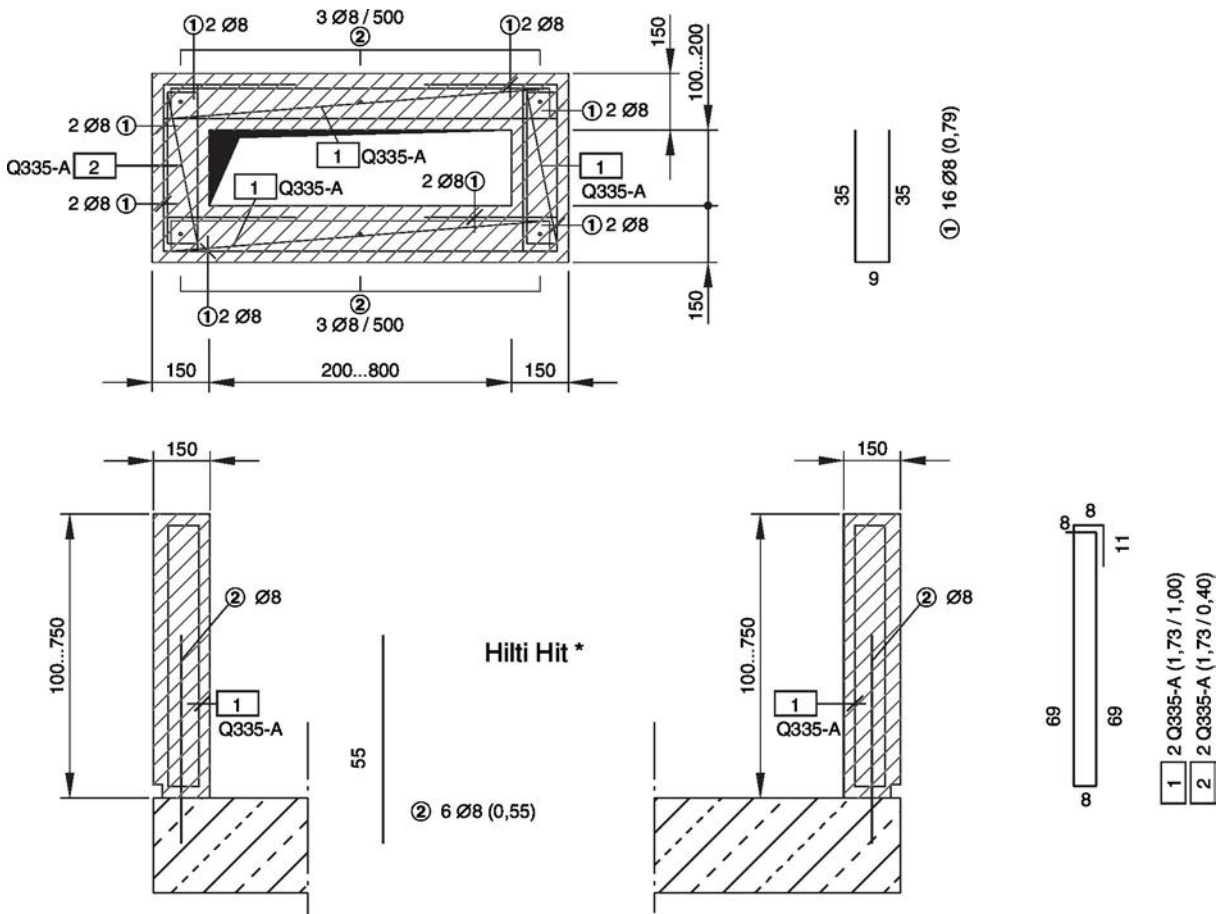

Fig. 24: Reinforcement plan for concrete bases with a height of 100 to 750 mm
- Create concrete base, for a reinforcement plan (or similar, e.g. with steel fabric) see Fig. 24.